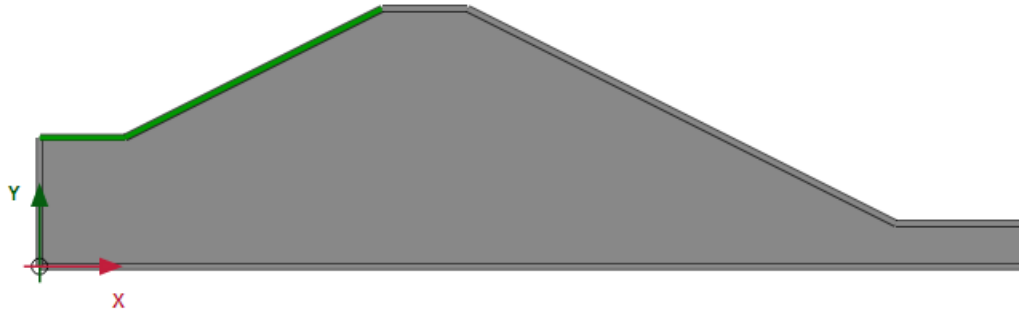

Figure 12-2: Selection of left hand side of slope
- 2 Select the two lines that form the left hand side slope and river bed as shown in Figure 12-2 \(p. 197\) . In the **Selection Explorer** specify a **Coarseness factor** of 0.5.